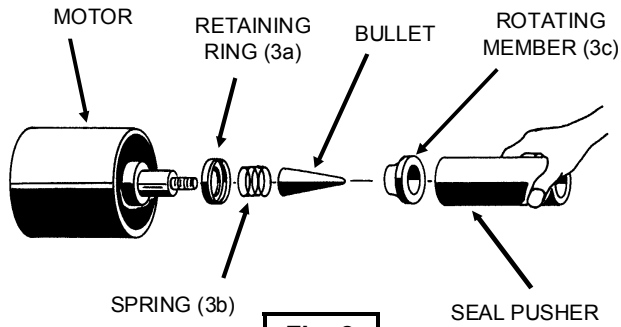

Fig. 8
DO NOT HAMMER ON THE SEAL PUSHER - IT WILL DAMAGE THE SEAL FACE. Place spring retainer and spring onto motor shaft. Lightly oil shaft (**DO NOT** use grease) and inner surface of bellows of rotating member. With finished end away from motor, slide rotating member over bullet and onto shaft until it engages spring (see Fig. 8). Carefully assemble shaft to seal plate as per section F-3.3. It is extremely important to keep seal faces clean during assembly. Dirt particles lodged between these faces will cause the seal to leak. When seal plate is assembled to motor, it will properly align and seat the seal (3) and bearing (4). Follow complete reassembly instructions as per section F-3.3.